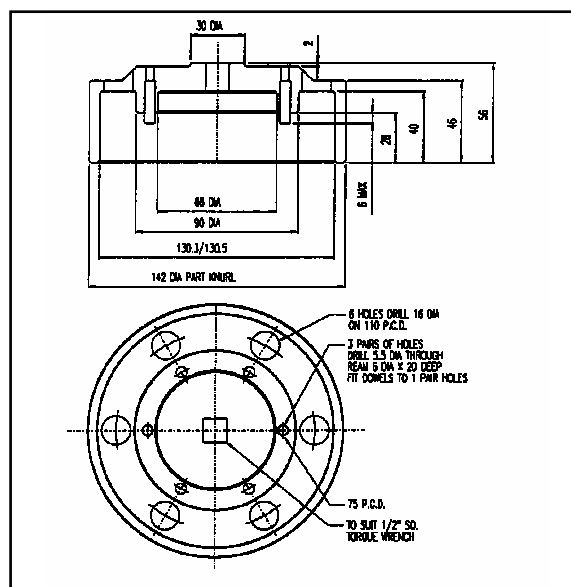

Figure B19 - Hub Nut Spanner 9104-M-138/9
- 5.2. Unscrew the hub locknut assembly (items 5, 6 & 7) using hub nut spanner. (See figure B19)